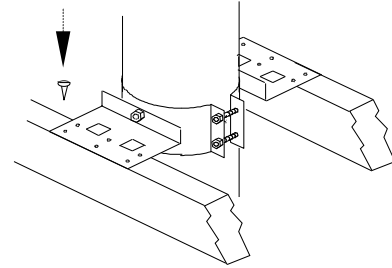

Figure 32
- Step 2.** Slip the support down over the stainless steel chimney until its brackets rest on the roof or floor. Tighten the collar around the chimney, then secure it by screwing the four 1/2" metal screws (supplied) through the holes located on each side of the collar bolts and into the chimney (Figure 32).